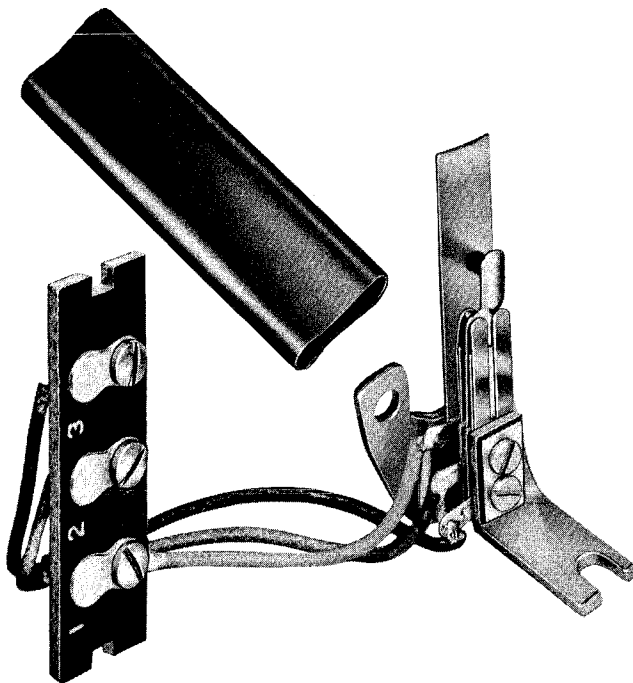

Fig. 2—227A Alarm Switch Assembly
2.05 The 227A alarm switch assembly (Fig. 2) consists of a single-pole double-throw contact spring pile-up mounted on a bracket and wired to three terminals on a terminal block.
sleeving, shown in Fig. 2, over the terminal block to prevent shorting.